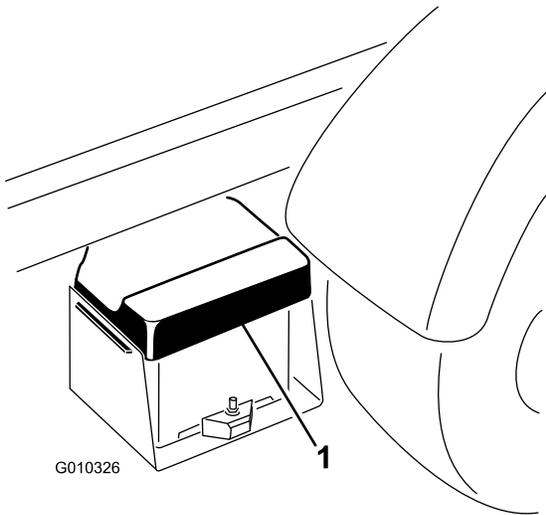

Figure 5
- Squeeze the battery cover to release the tabs from the battery base (Figure 5).
2. Remove the battery cover from the battery base (Figure 5).
6. Align the battery cover to the battery base (Figure 5).
7. Squeeze the battery cover, align the tabs to the battery base, and release the battery cover (Figure 5).